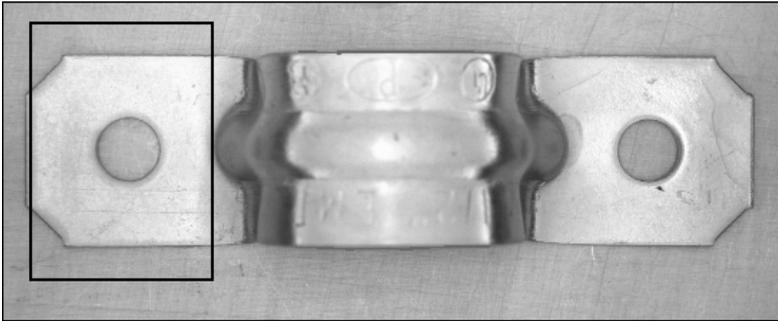

Figure 4-3. Selecting the First Search Area
14. With the **Rectangle Tool**, draw an ROI around the left side of the bracket, as shown in Figure 4-3. Be sure that the region you draw is larger than the template image and big enough to encompass all possible locations of the template in the other images you analyze. Drawing an ROI in which you expect to locate a template match is a significant step in pattern matching. It reduces the risk of finding a mismatch. It also allows you to specify the order in which you want to locate multiple instances of a template in an image and speeds up the matching process.